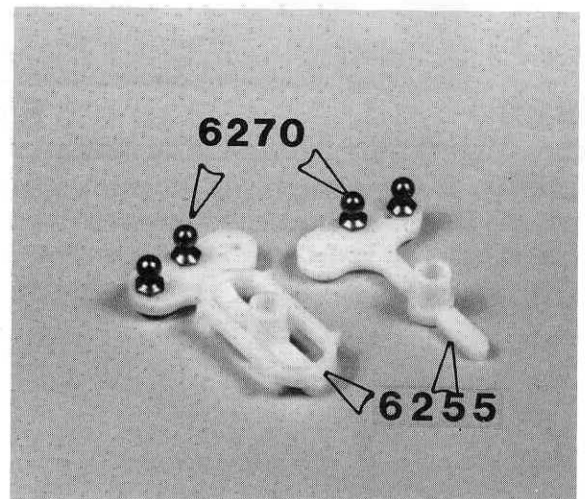

Fig. 19
□ **Fig. 19** In bag #6-2, take the #6255 servo saver parts out, and install four short #6270 ball ends from bag 6-14, as shown. No nuts are needed on these.